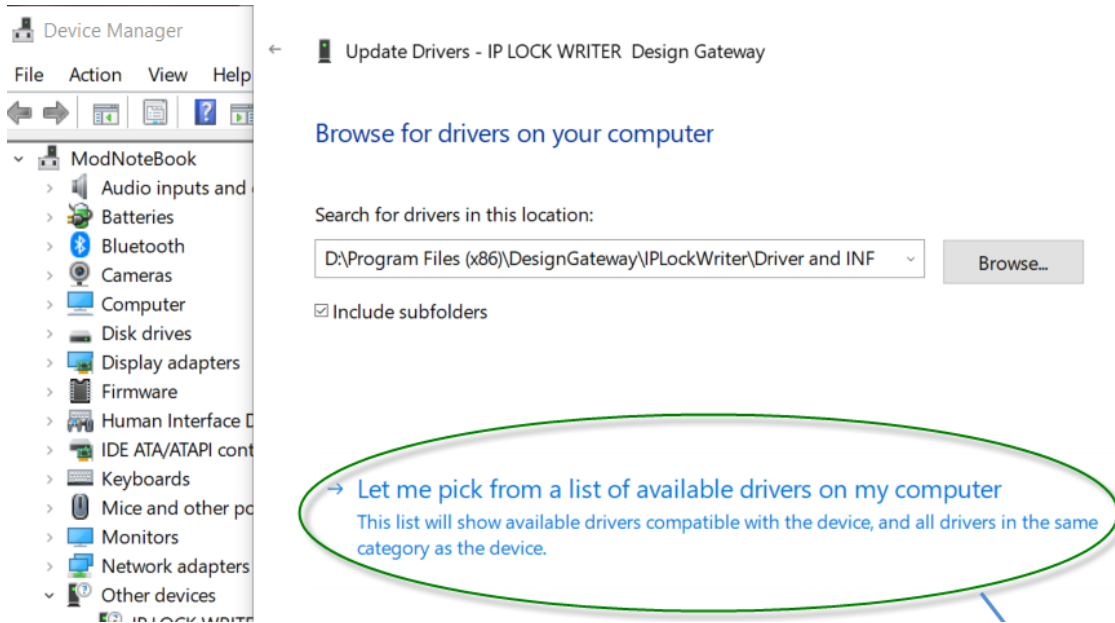

Figure 7-3 Select "Let me pick from a list of available drivers on my computer"
3. Select "Let me pick from a list of available drivers on my computer" (Figure 7-3).